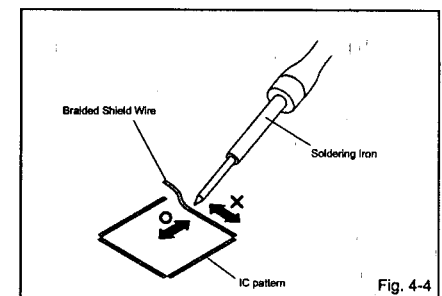

Fig. 4-4
- Absorb the solder left on the pattern using the Braided Shield Wire. (Refer to Fig. 4-4.)